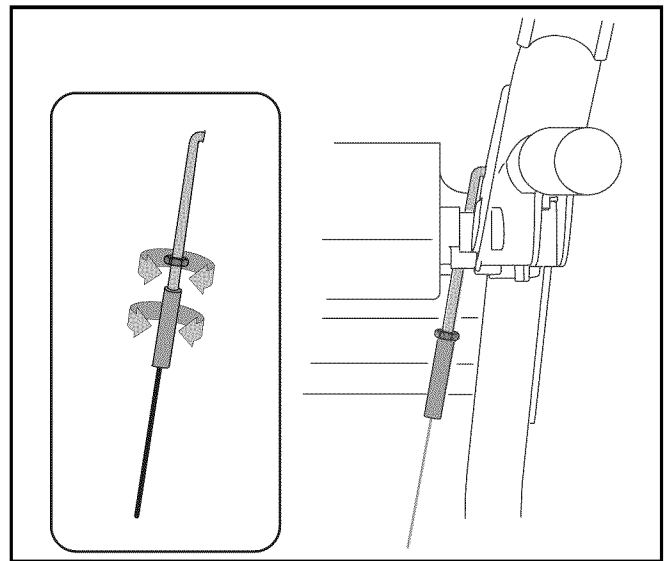

Figure 6
- Loosen the hex jam nut on the auger control cable “Z” fitting and rotate the coupling end of the cable downward to provide more slack or upward to take up slack. See Figure 6.